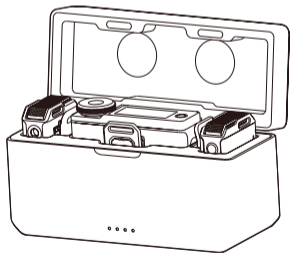

Figure 1
1. Auto pairing: Place the transmitter and the receiver in the charging case, and they will pair automatically. (Figure 1)